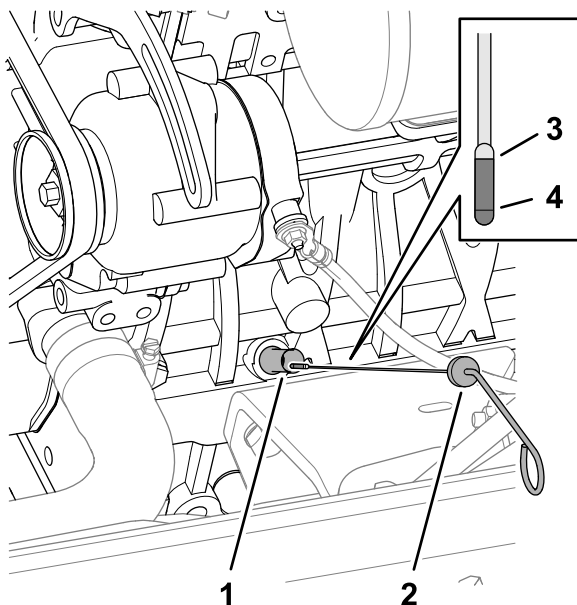

Figure 67
3. At the right side of the engine, remove the dipstick from the dipstick tube (Figure 67) and wipe the dipstick with a clean rag.